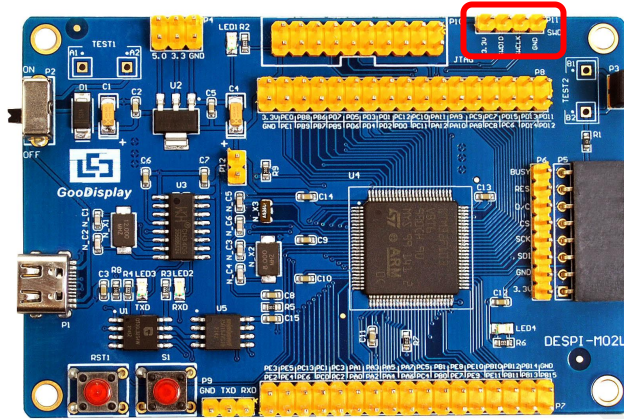

Figure 11 :SWD interface
1) As shown in figure 11, DESPI-M02L has a 4-wire SWD interface, which can be connected to the simulator interface by 4 wires and then connect the simulator to the computer.